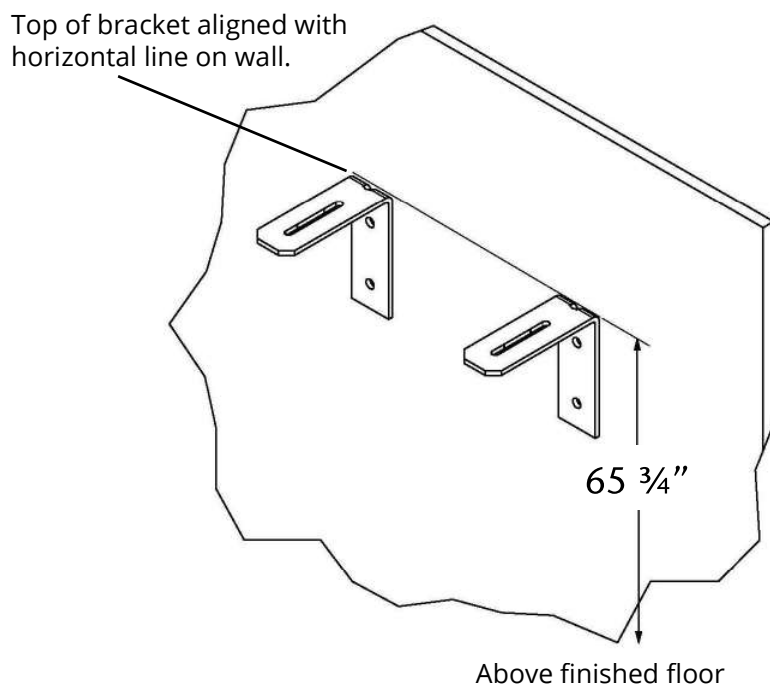

Figure 10
2. Mark wall 65-3/4" from finished floor in location where high-pressure reserve header will be mounted. Convert mark to level horizontal line approximately as long as assembled high-pressure reserve header (Figure 10).
3. Depending upon number of header extensions, two or more header brackets will be provided. Header brackets should be positioned along length of high-pressure reserve header assembly and should contact header directly between cylinder connections. A header bracket will typically be provided for each header extension. Measure centerline distance between header brackets and transfer those measurements to horizontal line described in step 2 as shown in Figure 10.
Distance between wall brackets to be determined by installer. Depending upon reserve header configuration, multiple brackets may be required. A bracket is provided for each header segment and should contact header between cylinder connections as shown in Figure 10.